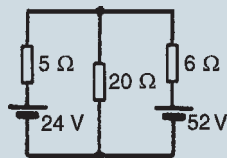

Figure 15.28
4. Use the superposition theorem to determine the current in each branch of the arrangement shown in Fig. 15.28.